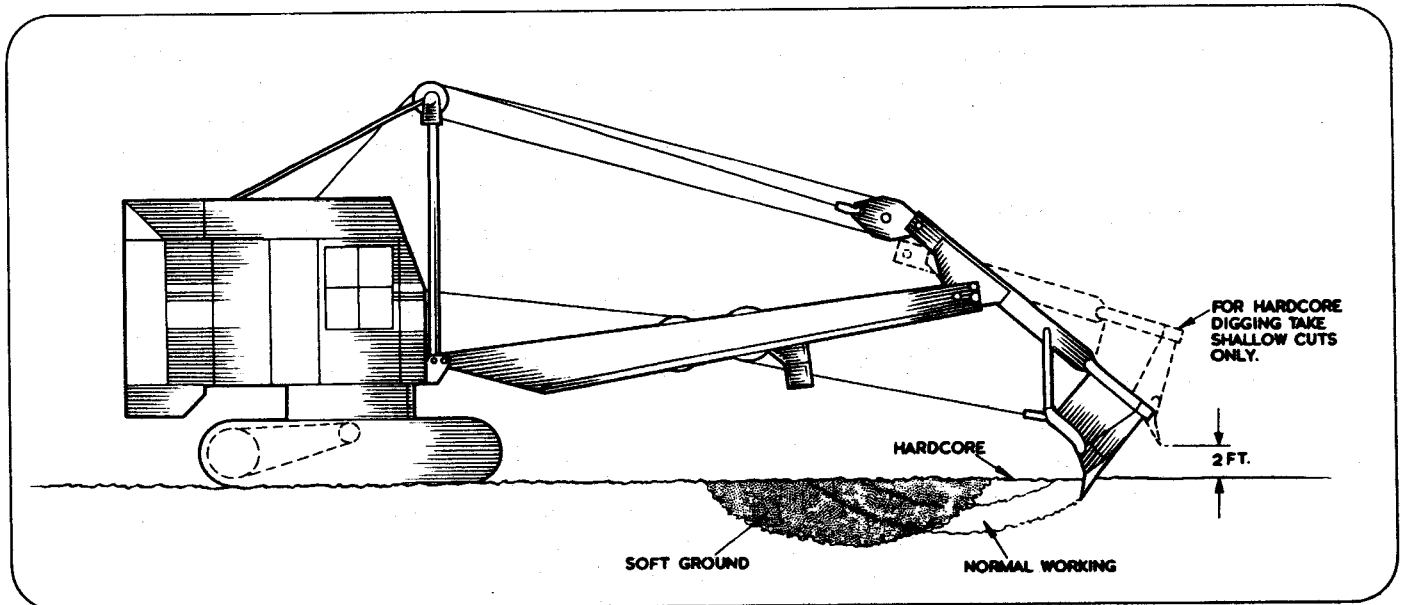

Fig. 19. Digging a Trench.
5. When commencing to dig a trench in hard ground, i.e. compacted hardcore etc., the dipper arm should be run out to about three quarters of its extended length so that the digging teeth will contact the ground at about the same angle as would a pickaxe if the trench was being excavated by hand. When breaking up the surface do not allow the dipper to fall from a height of more than 2ft. and if the teeth make no impression on the surface use a concrete ripper to break it up. Don't use the dragshovel as a pick. While the dragshovel will dig fairly hard materials, it will sometimes be cheaper to loosen the material with a pneumatic drill or blasting than trying to pull the dipper through hardcore or rock strata. Compressed air or power is cheaper than repairs. When dragging in the dipper release the hoist brake so that the weight of the boom assists in forcing the dipper into the material. When commencing to dig in soft ground run out the dipper arm to a point less than three quarters of its fully extended length and lower the dipper to the ground. When dragging in the dipper keep a slight pressure on the hoist brake, this will ensure that the weight of the boom is not transferred to the dipper, see Fig. 19.